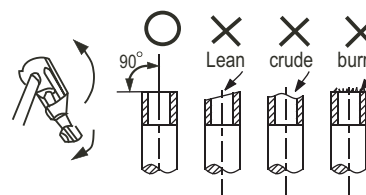

Fig.7-4
- Cut a pipe with a pipe cutter. (Refer to Fig.7-4)